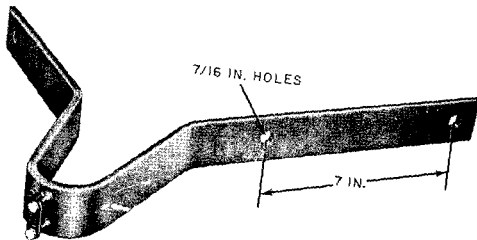

Fig. 13—B Wall Bracket
3.08 E Wall Bracket (Fig. 13): Used for placing strand at outside corners on masonry buildings. The clevis end of the bracket accommodates the sheathed strand of self-supporting cable.